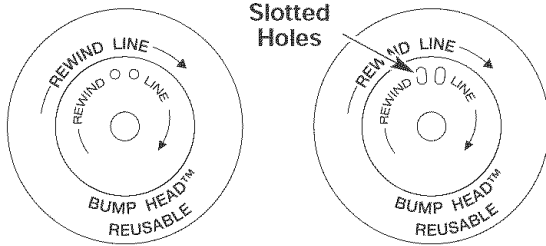

Fig. 18
**NOTE:** SplitLine™ can only be used with the inner reel with the slotted holes. Single line can be used on either type of inner reel. Use Figure 18 to identify the inner reel you have.